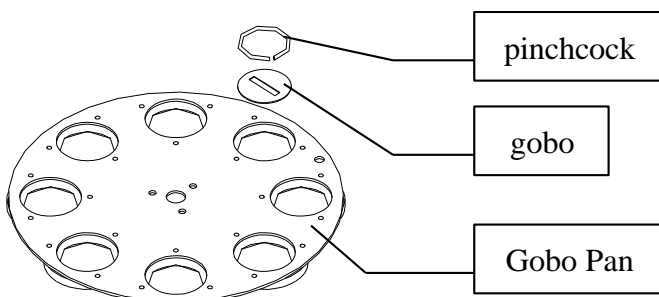

Fig. 7
4. Very carefully take the pinchcock (fig 7 and 8) out of the gobo wheel, but pay attention that the pinchcock does not fall in the device. Then push the gobo out.